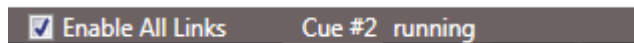

Figure 254
4. The **Status Bar** text in the bottom left corner of the SpikeMark screen displays which cue is running (Figure 254).